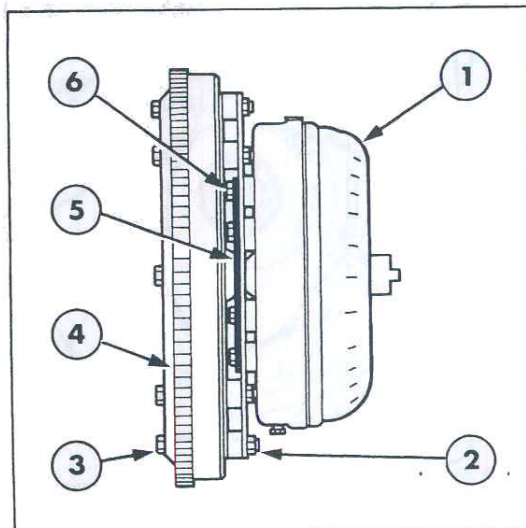

Figure 33
1. Remove the torque converter and drive plate from the stator support, Figure 33.